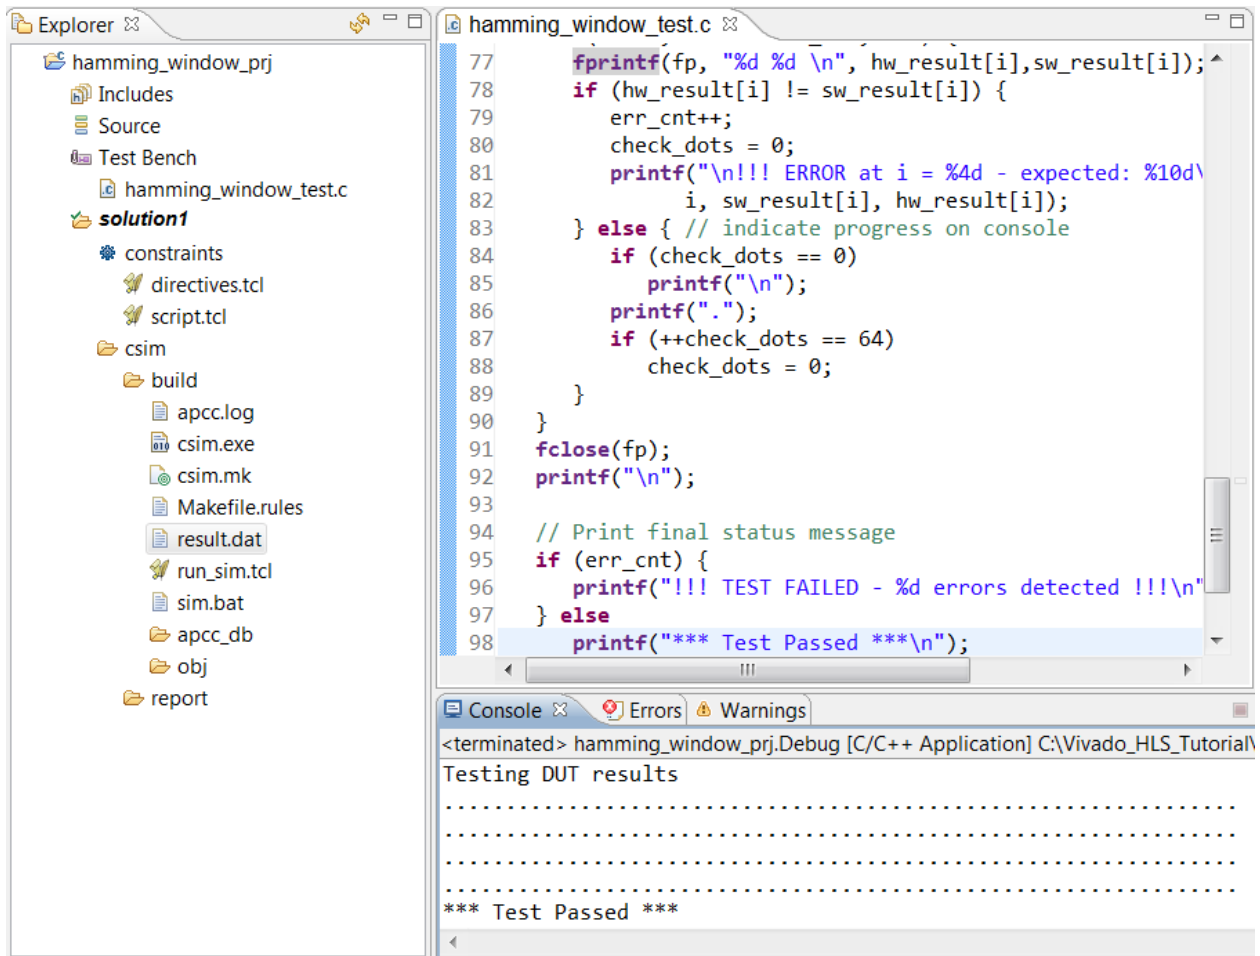

Figure 37: C Simulation Results
As shown in **Figure 37**, the following actions occur when C simulation executes:
- The C simulation executes in the solution sub-directory `csim`. You can find any output from the C simulation in the build folder, which is the location at which you can see the output file `result.dat` written by the `fprintf` command highlighted in Figure 37.